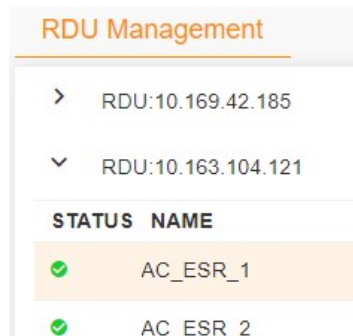

Figure 6-17 Effect of expanded devices under the RDU
2. On the RDU list, you can click  in the front of the RDU row to expand the devices under RDU (as shown in Figure 6-17).